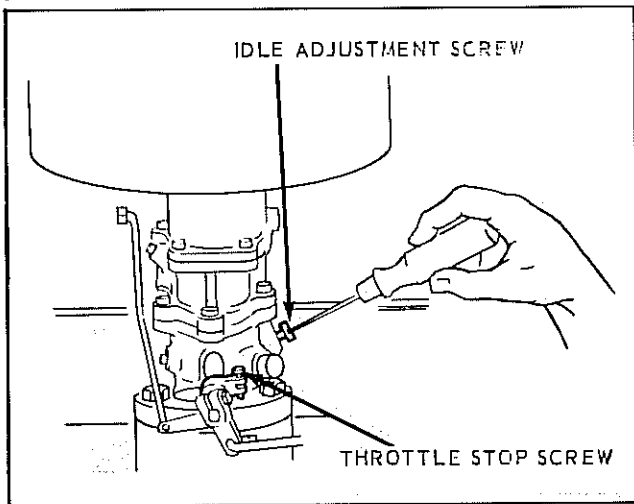

Figure 6. Adjusting Carburetor
a. Idle Fuel Adjustment: The carburetor is controlled by the idle adjustment screw that regulates the fuel-air mixture, see figure 6. Turn the screw clockwise for a richer mixture, or counterclockwise for a leaner mixture. If a vacuum gauge is used, turn screw until highest vacuum reading is obtained. If a gauge is not used, set screw to a range at which engine idles its smoothest.
b. Idle Speed Adjustment. See figure 6. A stop screw controls action of the throttle valve. Turn screw clockwise for faster idle speed, or counterclockwise for slower idle speed. This adjustment should be made with a tachometer. Idling speed should be set for 450 to 500 revolutions per minute. Reset idle mixture screw if necessary, after throttle adjustment has been made.